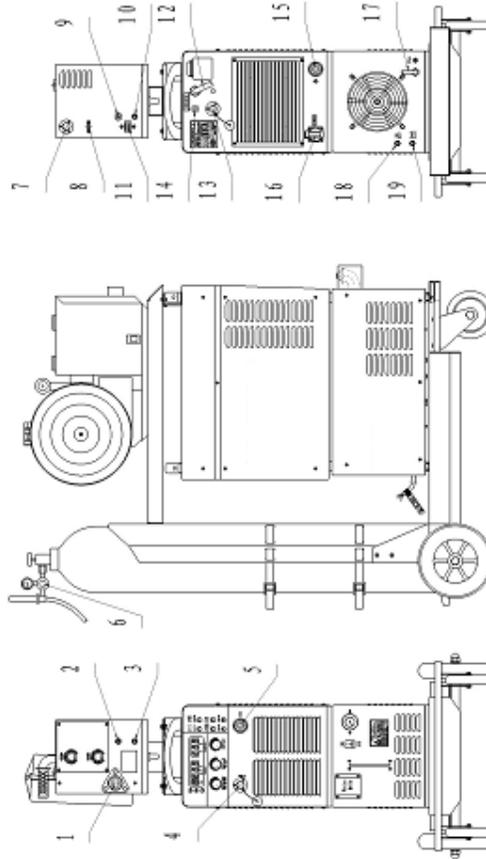

Figure 5: Connection Chart for COMBO 500 ID
COMBO 500 ID connection chart as Figure 5:
Procedure for assembling the machine (Refer to Figure 5)
3. Preparation procedure prior to welding: (refer to figure 5)